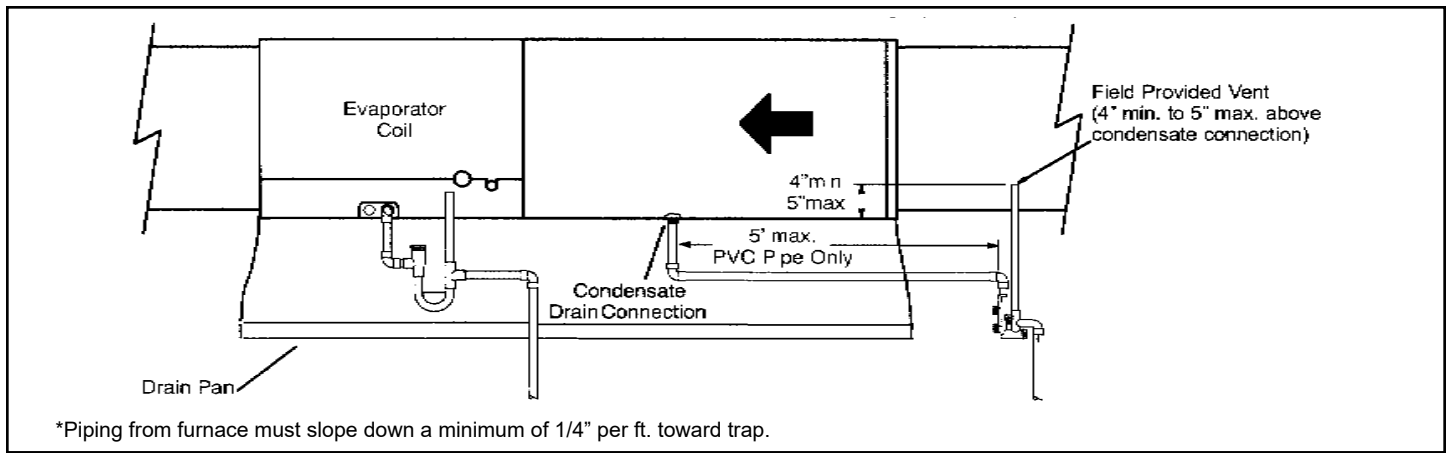
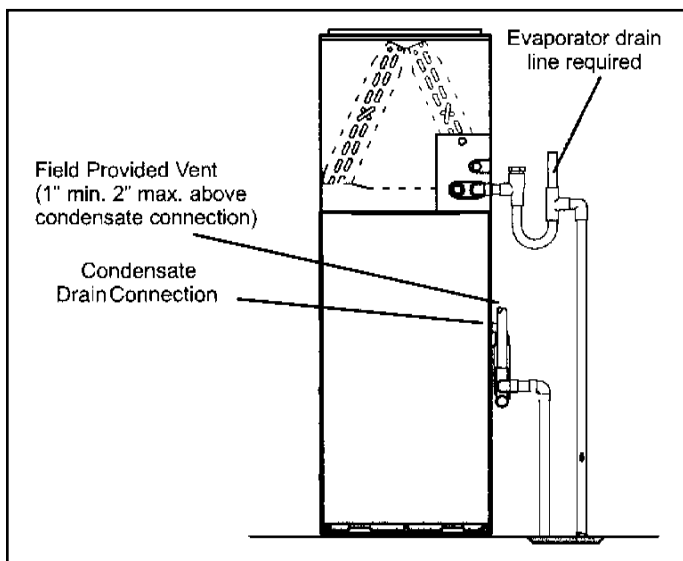
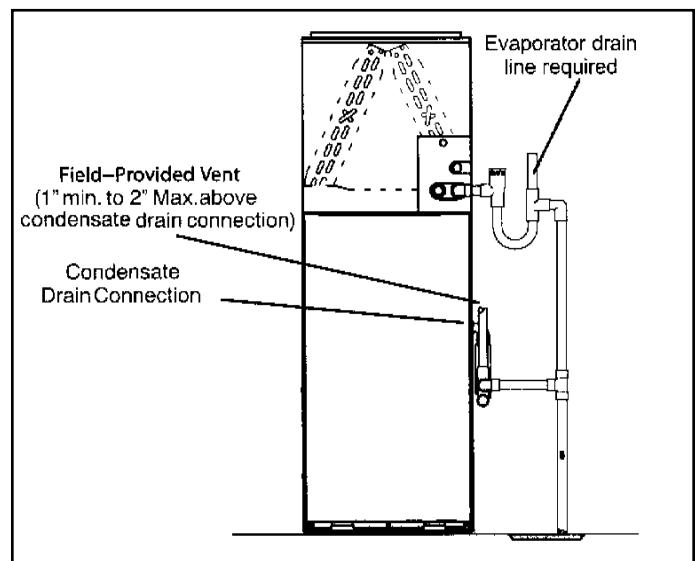

Figure 55. Condensate Trap Locations
Figure 56. Unit with Evaporator Coil
Figure 57. Evaporator Coil Using a Common Drain
This unit is designed for either right or left side exit of condensate piping in upflow applications. In horizontal applications, the condensate trap must extend below the unit. An 8" service clearance is required for the condensate trap. Refer to Figure 52 and Figure 55 for condensate trap locations. Figure 59 shows trap assembly using 1/2" PVC or 3/4" PVC.
4. Figure 55 and Figure 56 show the furnace and evaporator coil using a separate drain. If necessary, the condensate line from the furnace and evaporator coil can drain together. See Figure 57 and Figure 58.
Horizontal furnace (Figure 55) - In horizontal furnace applications, the field provided vent must be minimum 4" to a maximum 5" length above the condensate drain outlet connection. Any length above 5" may result in a flooded heat exchanger if the combined primary drain line were to become restricted.